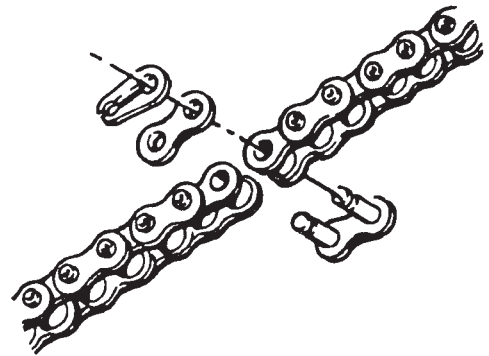

FIGURE 4
- If output shaft rotation is in direction that would open the door and electrical Power Source is three (3) phase; disconnect the power and interchange any two of the three power input lines. If Power Source is single phase, review and repeat Step 7 above.
**STEP 9** (See Figure 4)